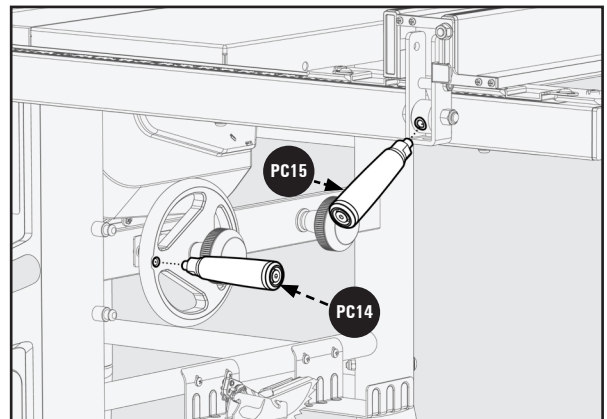

Figure 17
2. Insert one Handle **PC14** to the Bevel Hand Wheel located on the right side of the Saw, as seen in Figure 17.
1. Screw the Labeled Handle **PC15** to the Rip Fence with the supplied Hex Wrench. See in Figure 17.